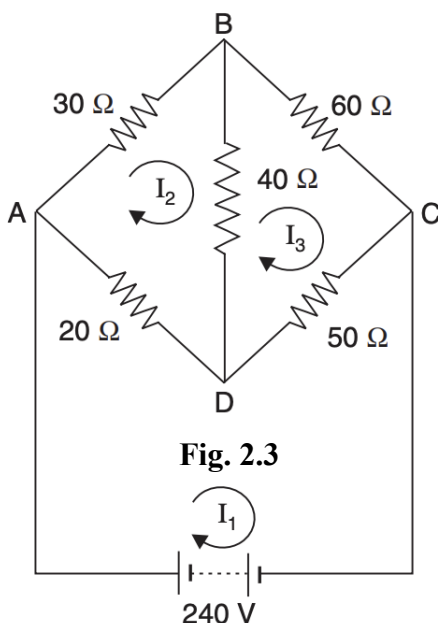

Fig. 2.3
3. Determine the mesh currents of the bridge circuit shown in Fig. 2.3.